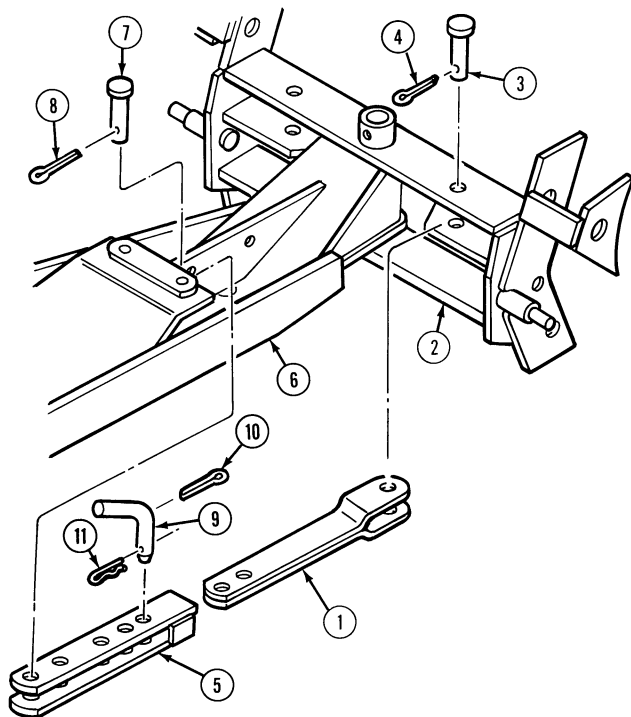

Figure 23
1. Attach the male link, (1), Figure 23, to the blade, (2), using a 3/4" dia. x 3" headed pin, (3), and a 1/4" x 1-1/2" cotter pin, (4).
2. Slide the female link, (5), Figure 23, over the male link, (1), then attach the female link to the forward frame, (6), using a 3/4" dia. x 2-1/4" headed pin, (7), and 1/4" x 1-1/2" cotter pin, (8).
4. The mechanical angling links are designed to lock the blade in any one of five positions from left to right. After positioning the blade to the desired angle, lock the mechanical links with L-pin, (9), Figure 23, 3/16" x 1-1/2" cotter pin, (10) and hair pin clip, (11).